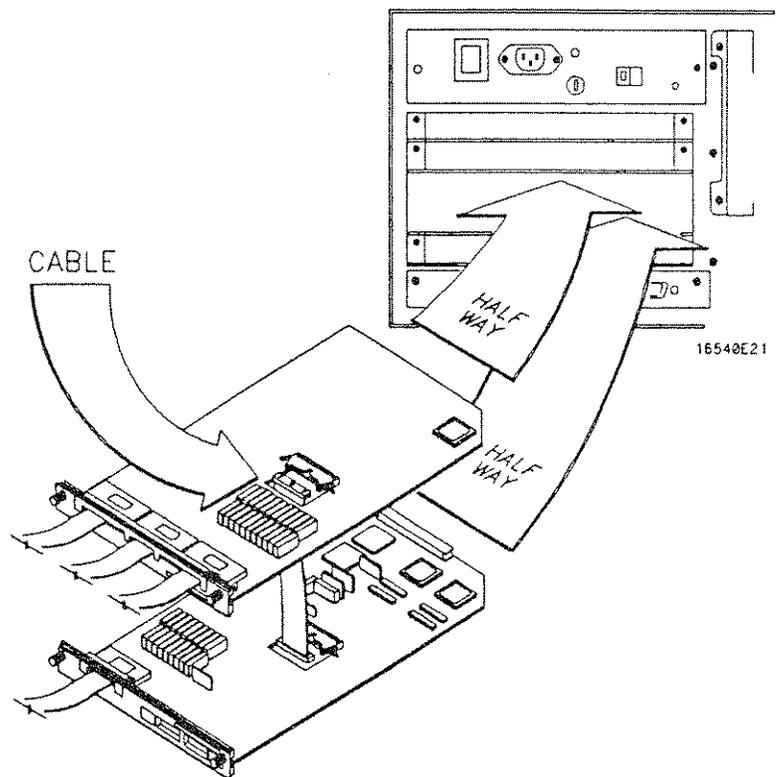

Figure B-4. Installing Cards Into The Mainframe
9. Slide the complete module into the mainframe, but not completely in. See figure B-4.